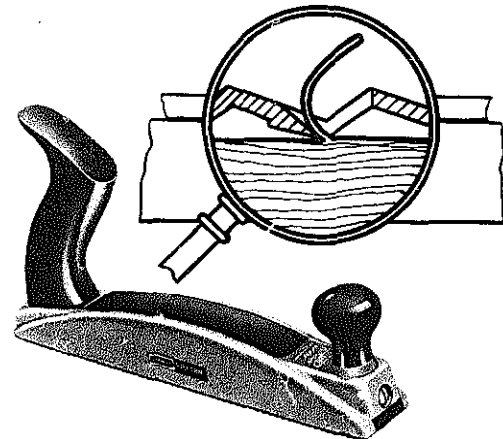

Fig. 8-76 Forming plane.
- The *forming plane*, figure 8-76, has a serrated bottom. The serrations act like a series of tiny block planes. The forming plane works well for smoothing end grain or cross grain. It is also good on edges of plywood, composition board, plastics, and soft metals.